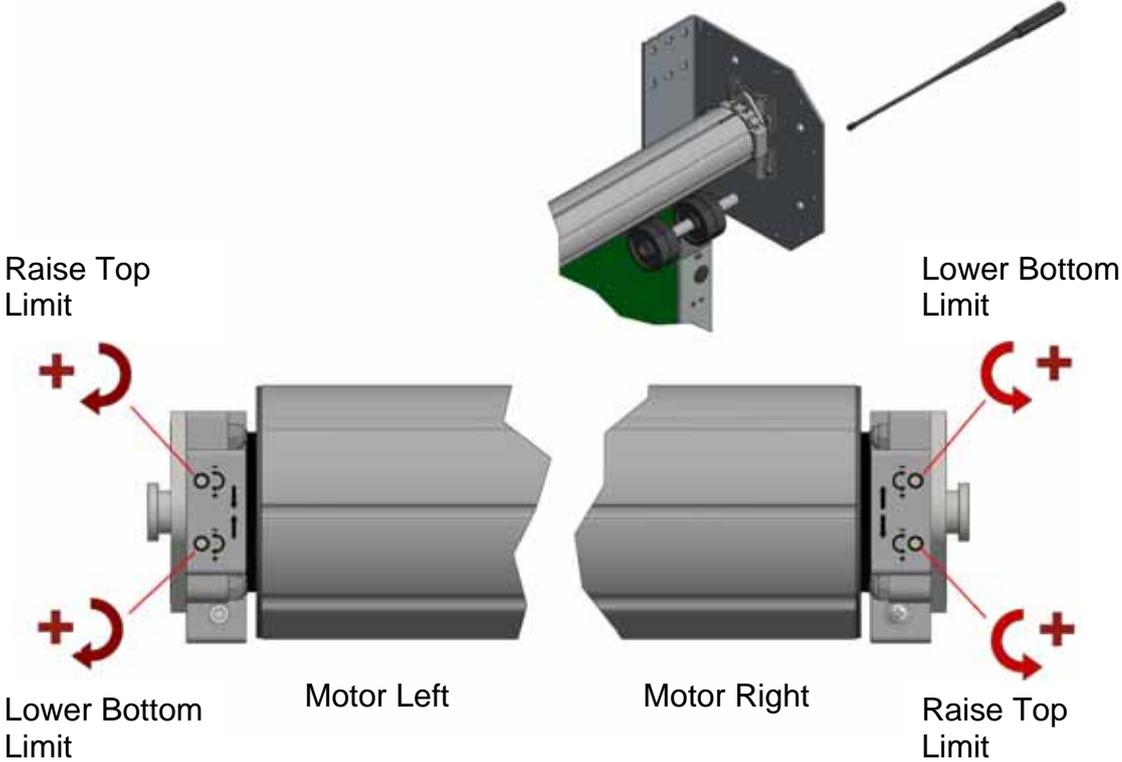

Figure 8c, Limit adjustment
12. Pre-tension the spring mechanism by rotating the roller assembly in the direction shown in Figure 13. The number of pre-tension turns is given in the table below. The mechanical limit position will require adjusting to achieve the full number of turns (see Figure 8c)
Top Limit: Fully open the door until the bottom tube is positioned just below the guide rollers. Set the Top limit at this position (Figure 8c).